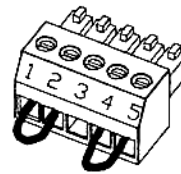

Figure 3-2: Sense connector default connection
- Remote Sense connector (J2): configured to Local Sense (as shown in Fig.3-2)